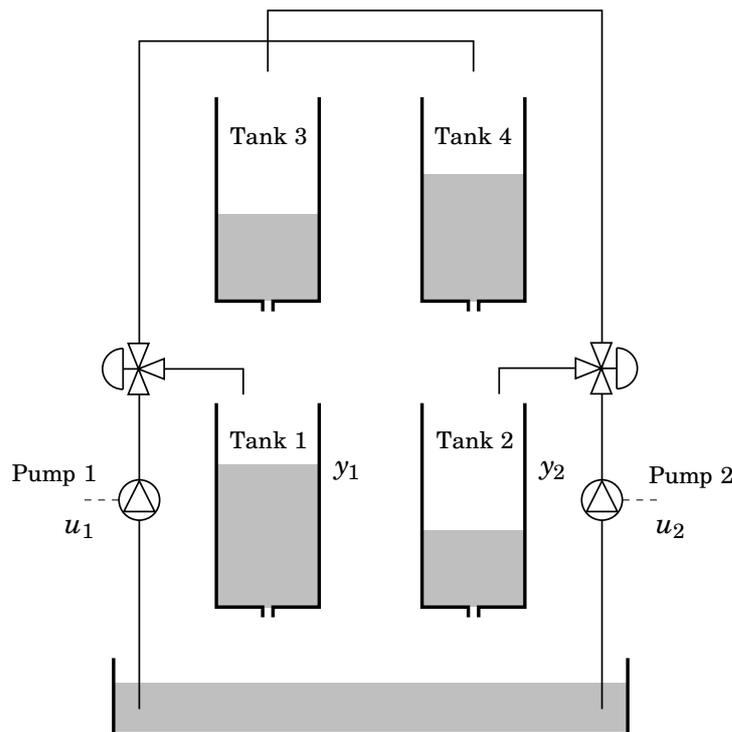

Figure 7.1 The quadruple-tank process.
7.3 Figure 7.1 shows the quadruple-tank process that will be used in Lab 2. The goal is to control the levels in the lower tanks (y_1, y_2) using the pumps (u_1, u_2). For each tank $i = 1 \dots 4$, mass balance and Torricelli's law give that